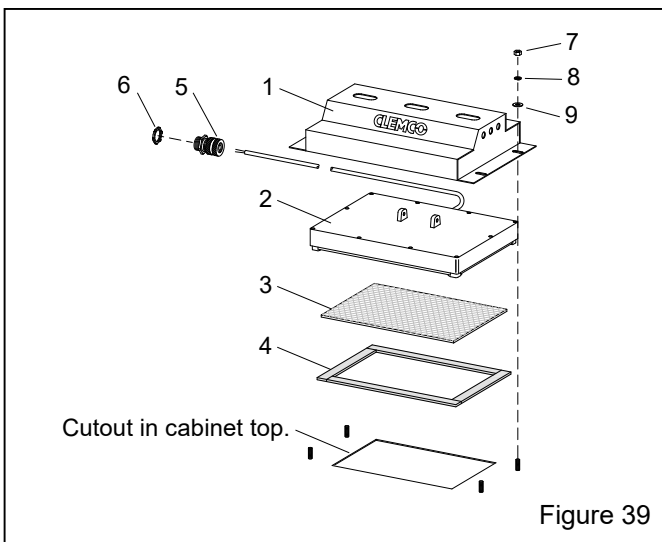

Figure 39
9.4 LED Light Assembly – Figure 39